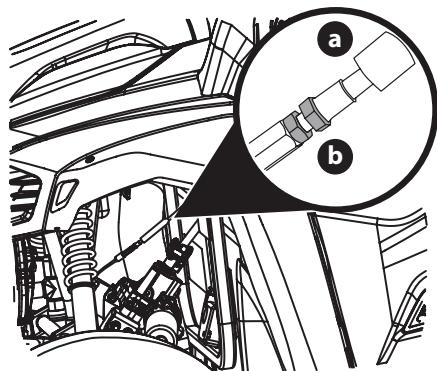

Figure 27
1. Look inside the driver's side wheel well and locate the adjustment point. Slide back the rubber cover (a) on the adjustment nuts (b) (Figure 27).
2. Adjust the parking brake handle nuts (b) until the free play in the handle is gone (Figure 27).